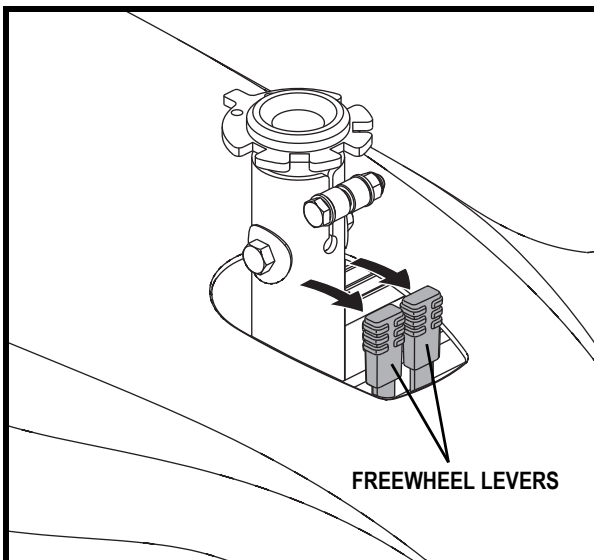

Figure 5. Drive Mode (Drive Engaged)
2. Push both levers forward away from the seat post to engage the drive motors (drive mode). See figure 5.
2. Ensure the power chair is in drive mode. **See figure 5.**